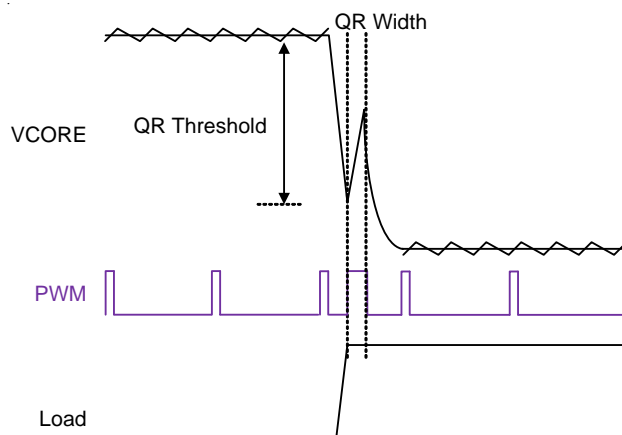

Figure 12. Quick Response Mechanism
When the transient load step-up becomes quite large, it is difficult for loop response to meet the energy transfer. Hence, output voltage generate undershoot to fail specification. The RT8170A has a Quick Response (QR) mechanism being able to improve this issue. It adopts a nonlinear control mechanism which can enlarge the on time of PWM signal at instantaneous step-up transient load to restrain the output voltage drooping, Figure 12 shows the QR behavior.